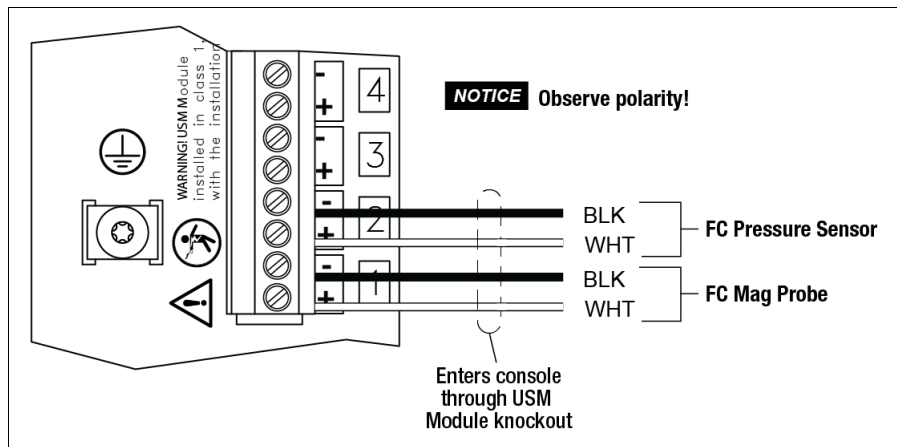

Figure 27. USM Module Connections
- Figure 27 - USM module Intrinsically-safe wiring connections - provides FC Mag Probe and FC Pressure Sensor data to ATG.